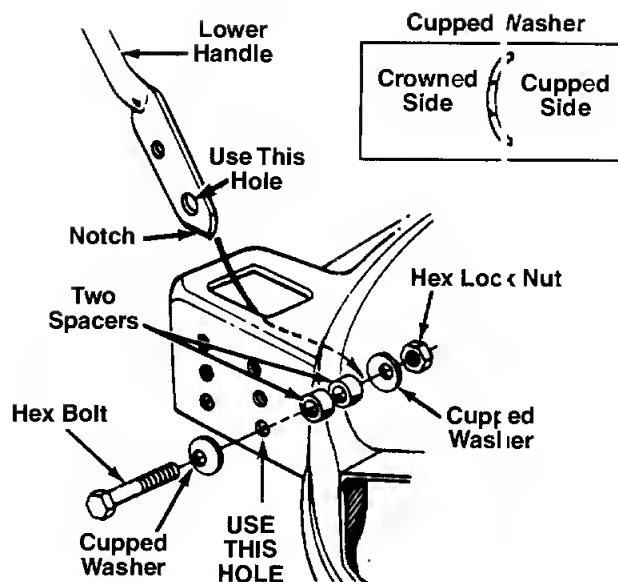

FIGURE 5B.— Models 050 thru 062
4. Place **two** spacers between the bottom hole in lower handle and **bottom inside hole** of the deck. See figure 5B. Use a screwdriver to pry the handle away from the deck if necessary.